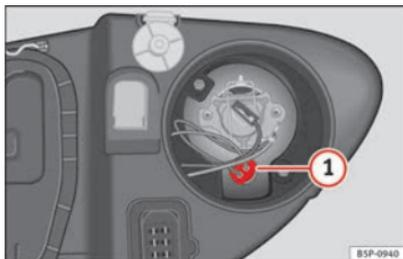

Fig. 189 Side light
- Extract the bulb holder ⇒ Fig. 189 ① outwards.